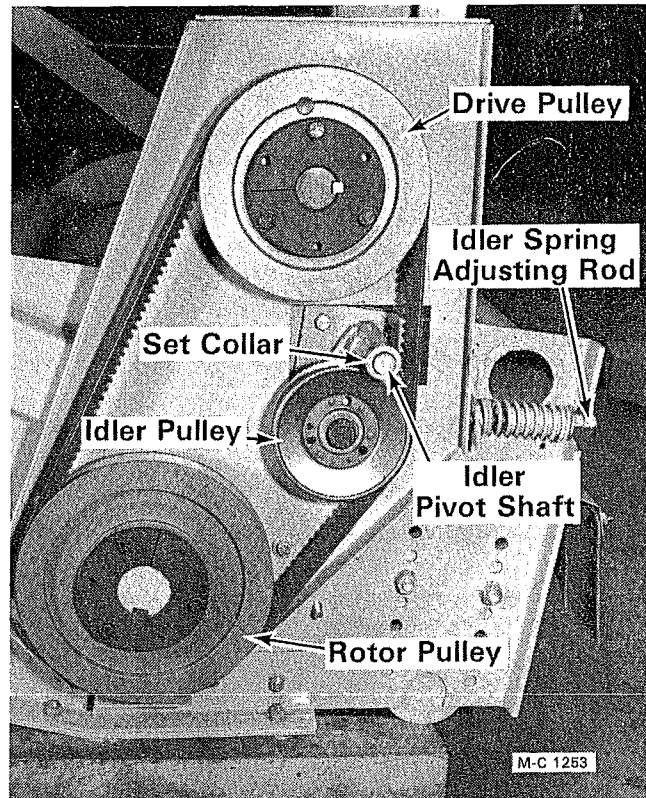

Figure 26 - TC Model Shown. On FM Models Rotor and Drive Pulleys Are Interchanged.
1. To check pulley alignment, remove the left tree guard and belt guard cover. Place a straight edge across the face of the drive and rotor pulley, see Figure 26.